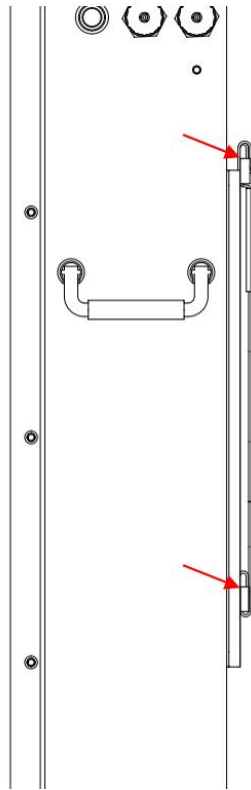

Figure 5-3
e) Carry the battery and holding it, Fix the battery on the plate after fixing the hanging plate to the wall. Ensure that the upper and lower positions of the battery backplane hook are accurately buckled on the hanging plate, as shown in Figure 5-3.